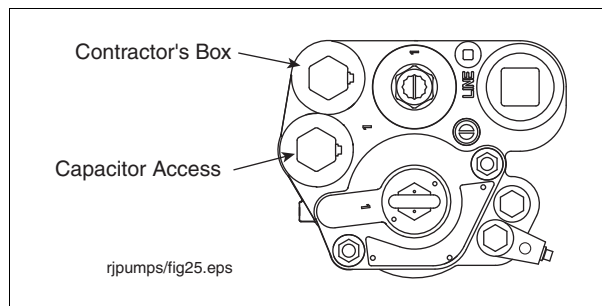

Figure 33. Locating Contractor's Box And Capacitor Compartment
1. Remove capacitor access cover (see Figure 33).
1. Remove the contractor's box cover (Figure 33 on page 50). Remove and discard the o-ring from the cover. Set aside the cover.